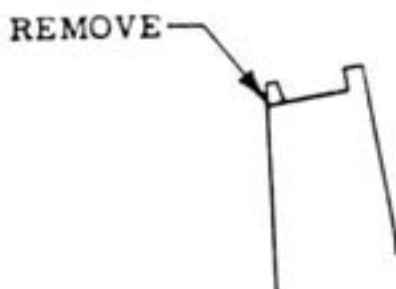

FIGURE 15
- a. Remove all Felt Hammer Tips with a jack knife. Make certain that the maple Hammer Head surface is clean of all Felt and old glue. If the Hammer Head is of the variety shown in inset Figure 4B, remove the back shoulder with a pair of end cutters in order to provide ample surface for the new Neoprene Tips. See Figure 15.